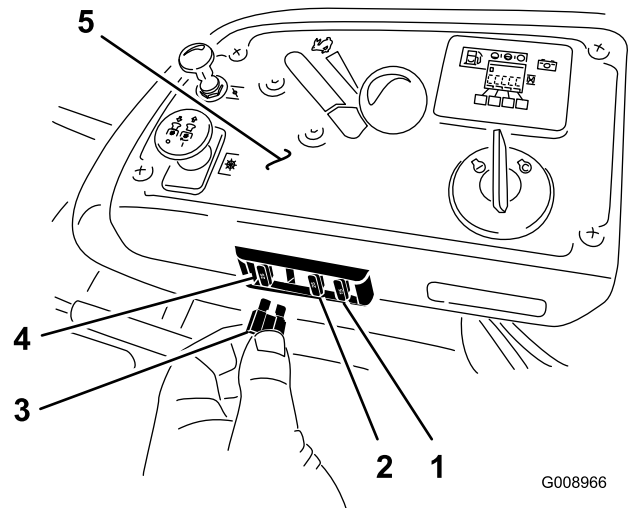

Figure 56
1. The fuses are located on right hand console next to the seat (Figure 56).
3. Install a new fuse (Figure 56).